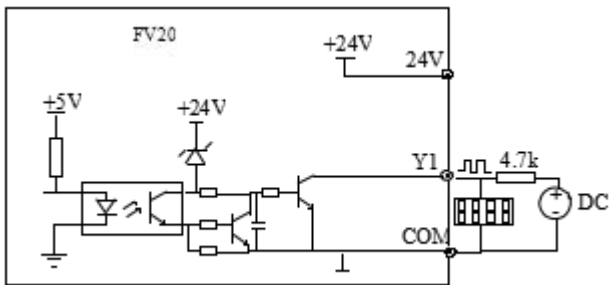

Fig.4-16 Wiring method 2 of output terminal Y2
4. When Y1 is used as a digital pulse frequency output, it can also use the external power supply. The wiring is shown in Fig.4-16